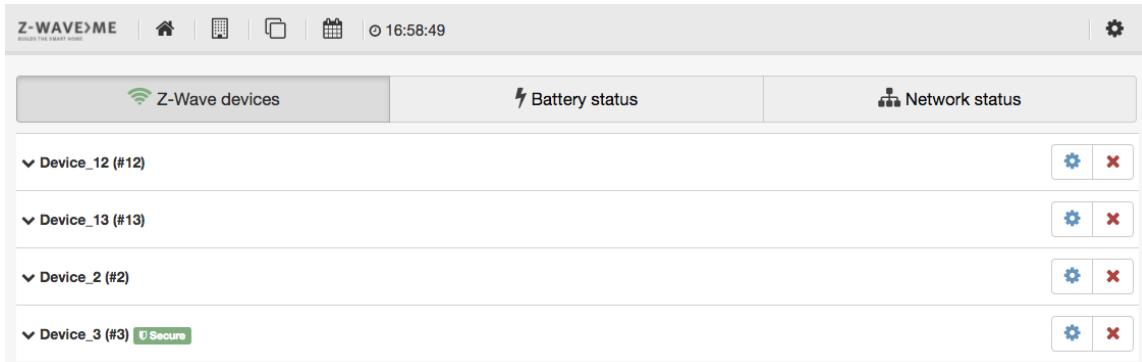

Figure 4.24: Z-Wave device overview
- Figure 4.24 shows a list of the physical **Z-Wave** devices. The button will open the very same device management dialog as described during manual post-inclusion configuration in Section 4.2.2. The button opens a dialog to remove the device. As shown in Figure ?? there are two options: